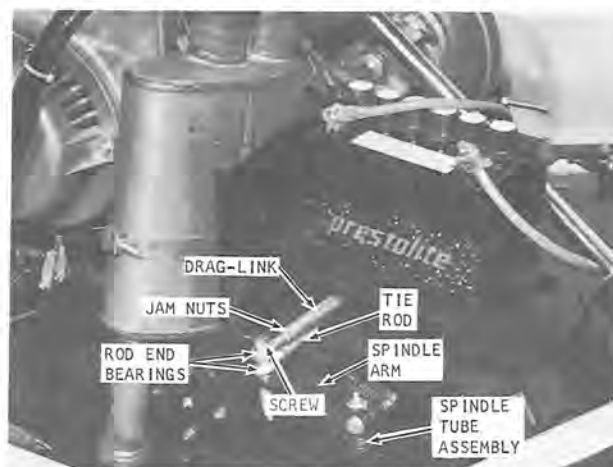

Figure 2
3. Remove screw (figure 2), three spacer bushings and bottom spacer securing the drag link and tie rod to the spindle arm.